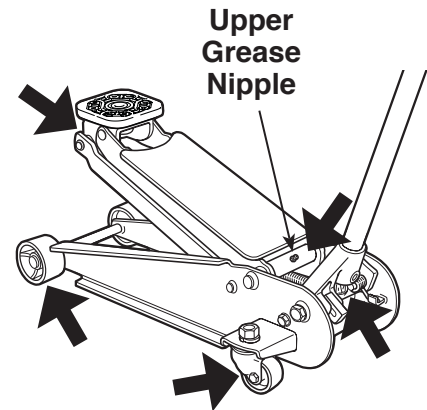

Figure 2
1. **A minimum of once a month**, lubricate the moving parts of the jack (indicated by arrows in Figure 2).